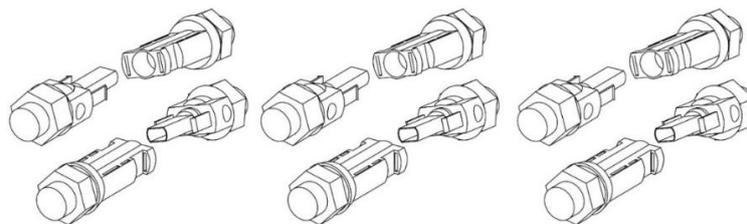

Figure 2.13 The DC connector is inserted into the positive and negative input of the hybrid inverter equipment.
4. Finally, insert the photovoltaic DC connector into the positive and negative input of the Hybrid inverter, as shown in figure 2.13.